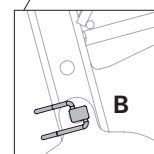

Fig. A14.12a
3. Remove the linch pin (27.7) from Position B. (Fig. A14.12a)
2. Fit the linch pin (27.7) in position A. (Fig. A14.12a)